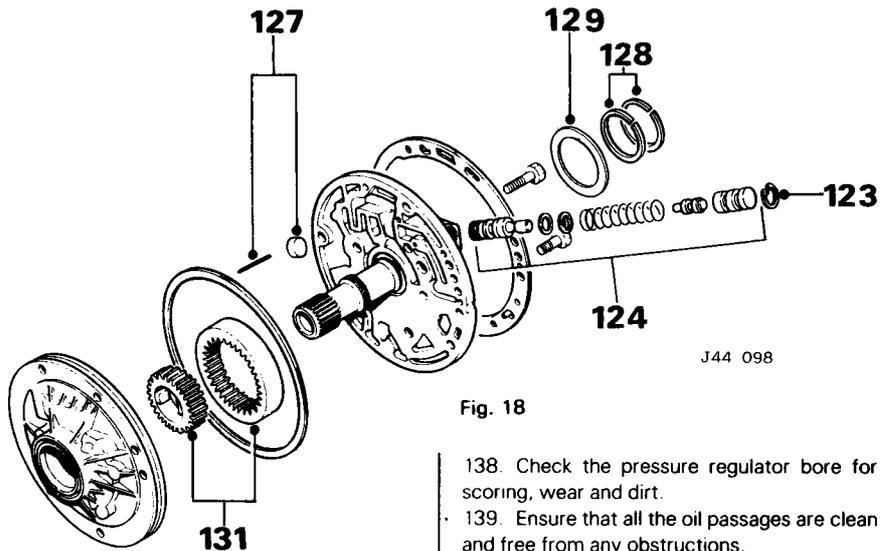

Fig. 18
- 123. Compress the regulator boost valve bushing against the regulator spring and remove the snap-ring (Fig. 18).
- 124. Remove the regulator boost valve bushing, boost valve, pressure regulator spring, spring retainer regulator valve and spacer(s) (Fig 18).
- 127. Remove the retaining pin and bore plug (Fig. 18) from the end of the regulator bore.
- 128. Remove the two oil rings (Fig. 18) from the pump cover.
- 129. Remove the pump to forward clutch housing thrust washer (Fig. 18).
- 131. Check the gears for scoring, chafing and other damage (Fig. 18).